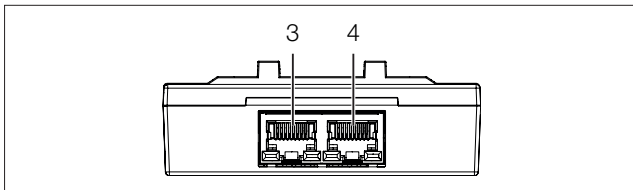

Fig. 13: Rear of the temperature sensor
- Use a CAN bus connection cable to connect the temperature sensor to a CAN bus interface on the Rittal embedded device or the neighbouring component on the CAN bus (fig. 13, item 3, 4).
- If necessary, connect another component (e.g. another sensor type) to the second, free CAN bus interface of the temperature sensor (fig. 13, item 3, 4).